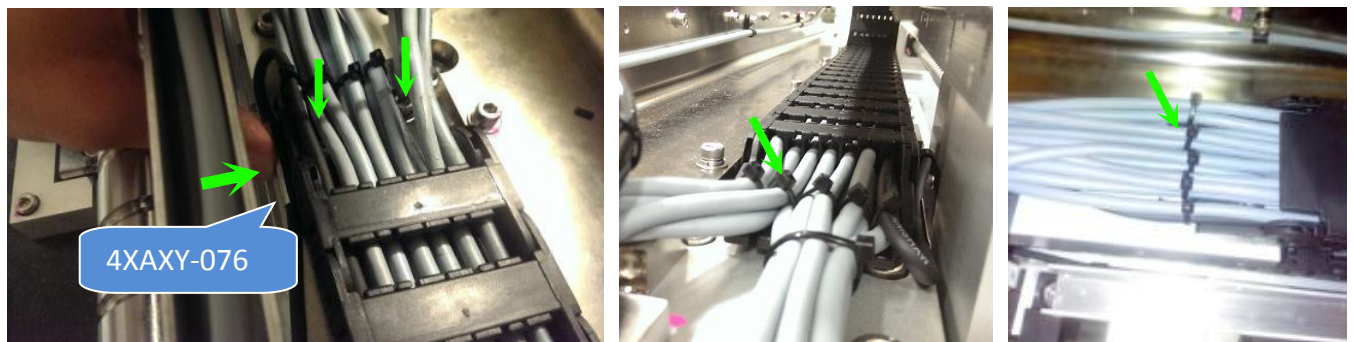

Figure 39 Stepper Motor Cable Routing (X Axis E-Chain)
41. Gently push BRACKET, ENCODER CABLE (P/N, 4XAXY-076) towards rear side .Tighten 2 x screws & reassemble E-Chain cover. Secure Cable with cable tie as below Figure 39